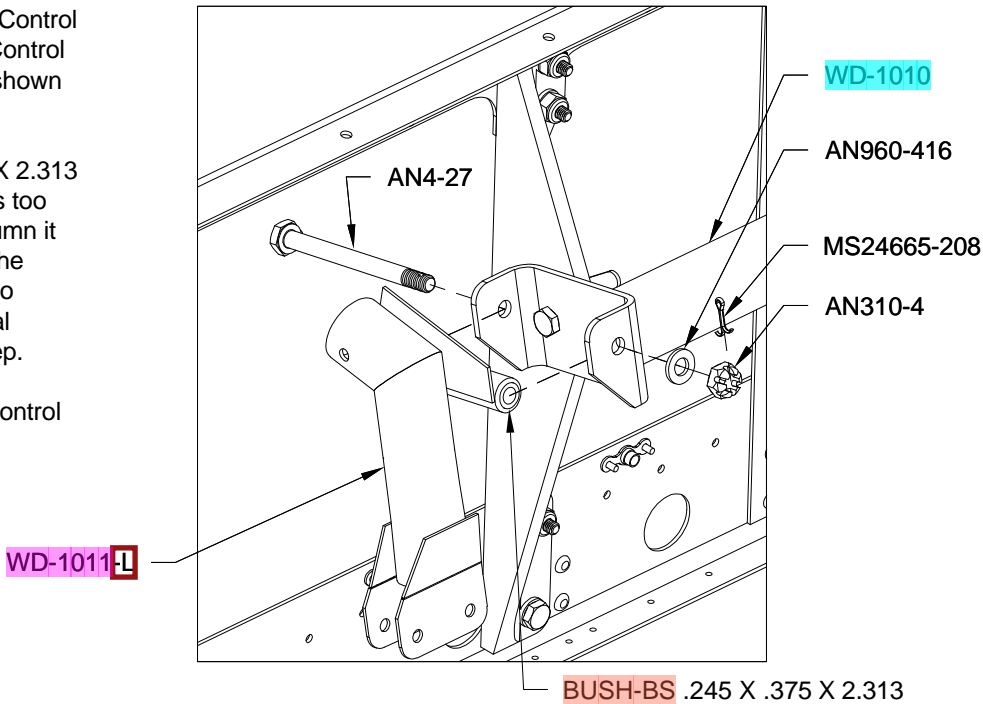

FIGURE 2: CONTROL STICK BASE INSTALLATION
Step 2: Bolt the WD-1011-L Control Stick Base to the WD-1010 Control Column using the hardware shown in Figure 2.